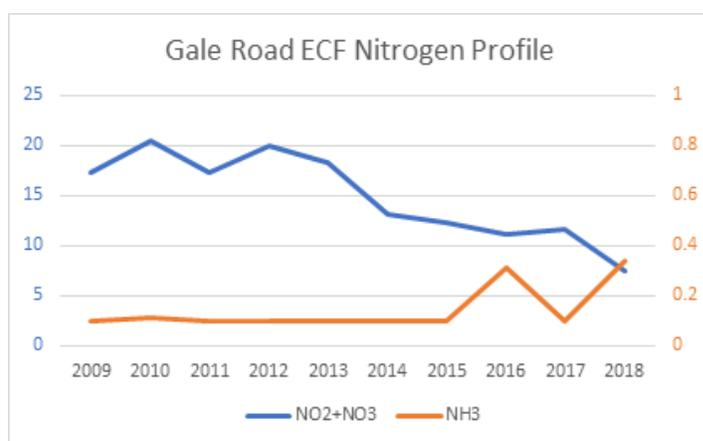

Figure 2
train operates with one cross the line 75 HP Positive Displacement (PD) blower and one variable frequency drive (VFD) 75 HP PD blower. Conversely in winter two VFD blowers are utilized with a minimum of 38 hertz which is required for mixing of the aeration basin. The target setpoint for dissolved oxygen is 2.8 mg/L which is regulated via an online dissolved oxygen (DO) probe located in the last cell of the aeration basin. Oxygen is regulated in the first pass to the minimum required for mixing to promote an anoxic zone in the first cell. This is a very weak anoxic zone, but with the demand of the raw wastewater we have been able to achieve this. This change made in the 2013 year is noticeable as the first drop of nitrate/nitrite yearly average reduction on Figure 2.